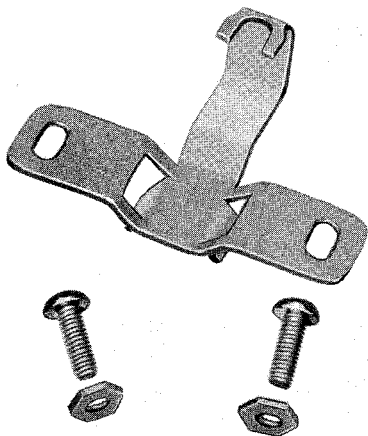

Fig. 33—90A Bracket
- 90A ♦(MD)♦ bracket (Fig. 33)—use with 123B1A, 128A1A-2, or 128E1A-2 protectors for indoor location